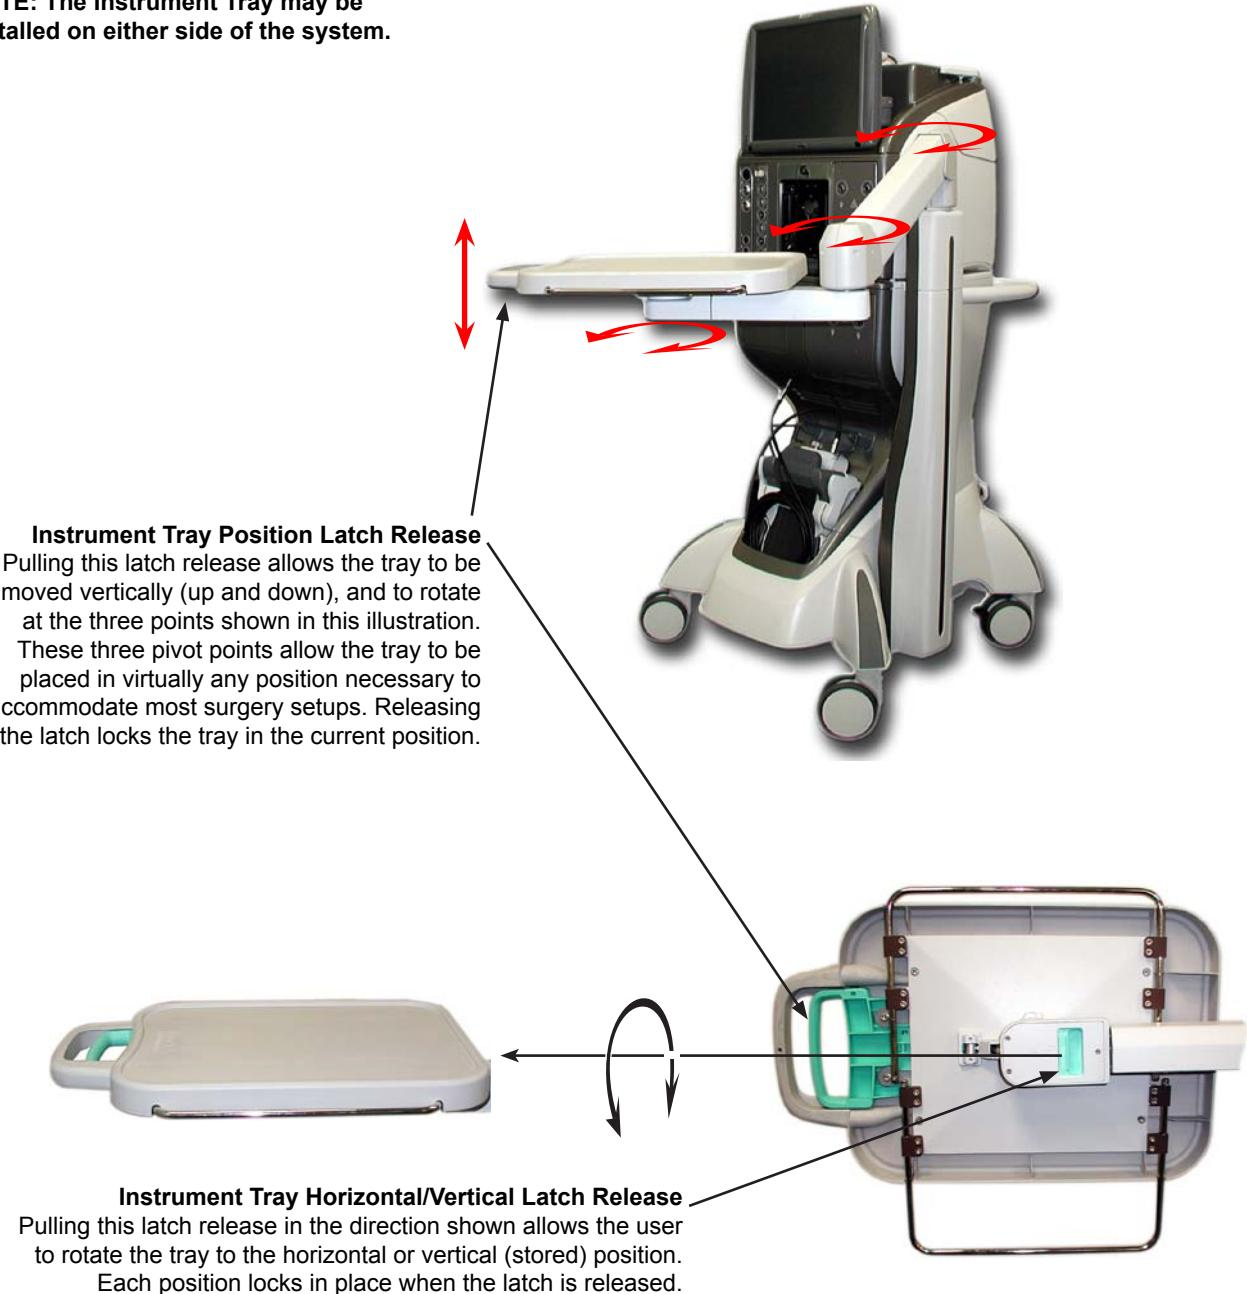

Figure 3-1 Positioning the Instrument Tray
The tray is capable of accommodating a variety of positions in the operating room environment: right, left, front and rear of the surgeon as well as the front of the bed. In addition, the tray can be installed on either side of the system. The tray height and position are adjustable by pulling the Instrument Tray Latch Release shown in Figure 3-1.
- 1 Pull the Horizontal/Vertical Latch Release (see Figure 3-1) and rotate the instrument tray to the vertical position shown in Figure 3-2.